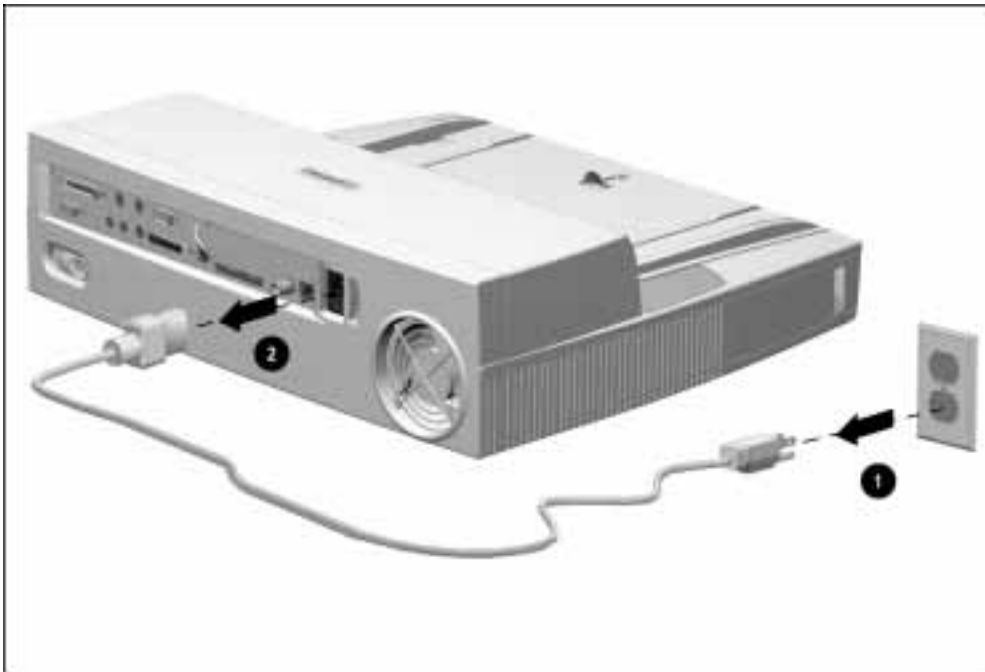

Figure 5-3. Disconnecting the ArmadaStation
4. Disconnect the power cord from the wall outlet ❶ (Figure 5-3).
5. Disconnect the power cord from the ArmadaStation ❷.